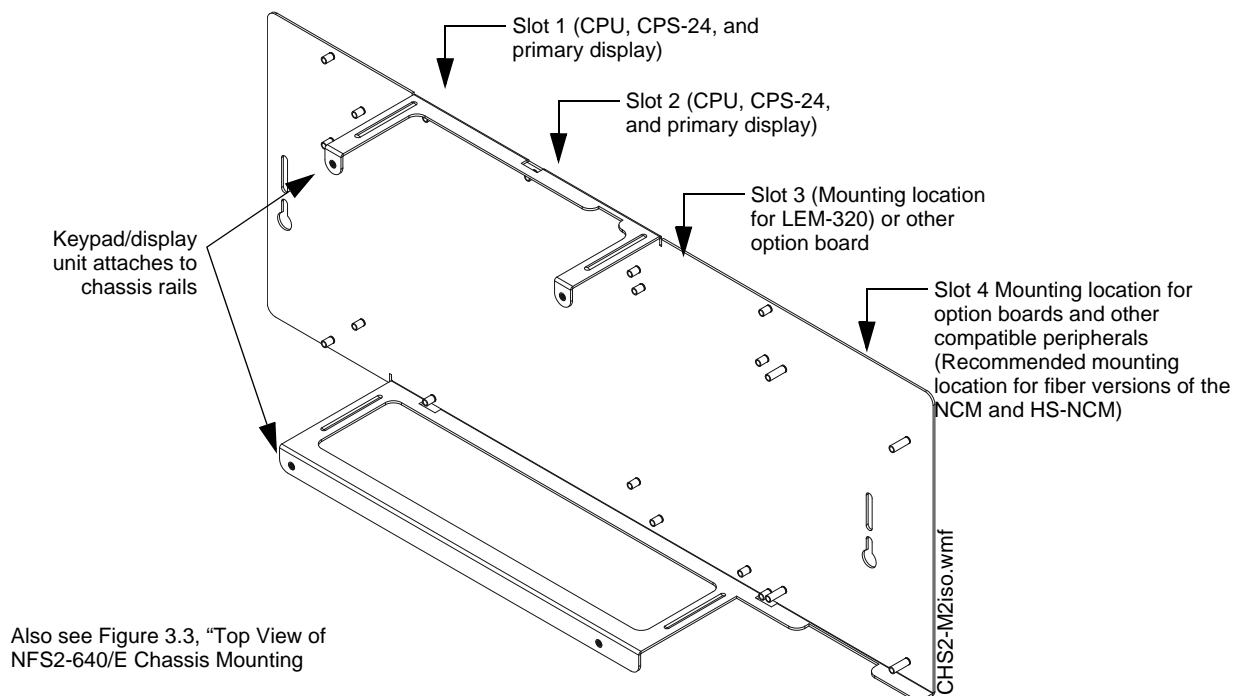
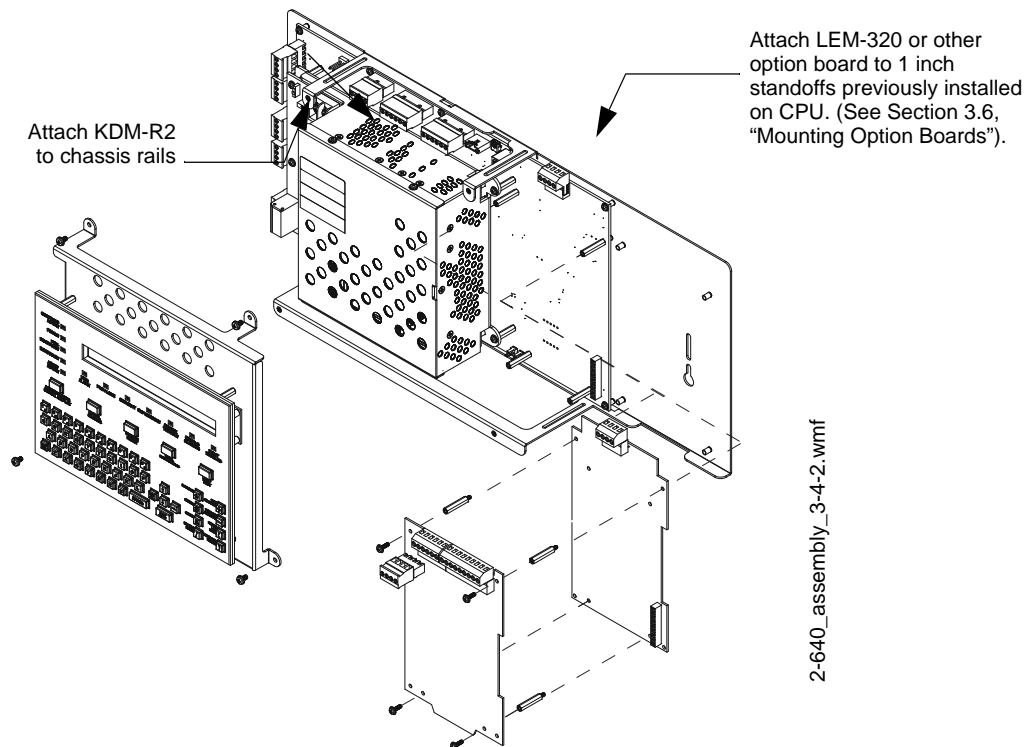
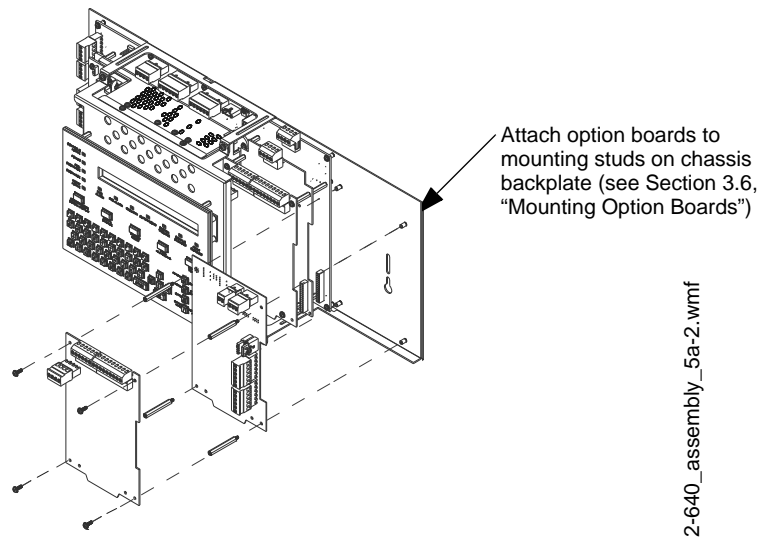

Figure 3.2 Side View of the NFS2-640/E Chassis Mounting Options
Figure 3.6 Attaching Option Boards Behind KDM-R2
Figure 3.7 Attaching Option Boards to the Right of the CPU
- Align the keypad with the mounting holes as shown in Figure 3.6 and screw it down.
Mount option boards in slots 3 and 4 of the NFS2-640/E chassis. (See Figure 3.2, Figure 3.6, and Figure 3.7.) For standoff lengths, see Table 3.2.